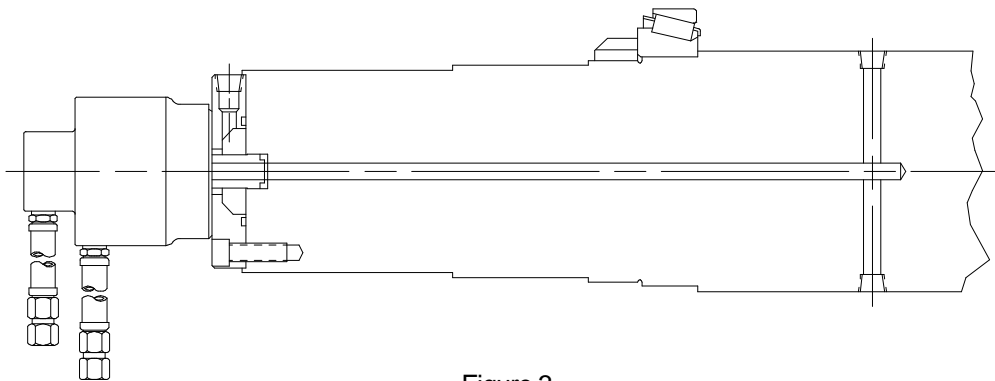

Figure 3
2.2.2 Figure 3 shows typical shaft drilling when one outlet is required outboard of the shaft support bearing. This outlet can be the one provided in the mounting flange of the rotor seal. The second outlet, between the shaft bearings, requires an axial hole and cross drilling.